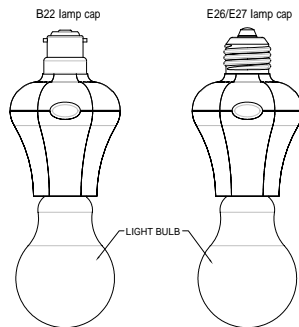

Fig. 1
- (1) Turn off the wall switch on the wall or mains power supply.
- (2) There are three types of lamp caps – B22, E26, E27. Choose whichever suits you most.
- (3) The Module is designed for ceiling mounting. Fit the Module into the existing lamp cap.
- (4) Place the light bulb into the lamp holder (Fig. 1).